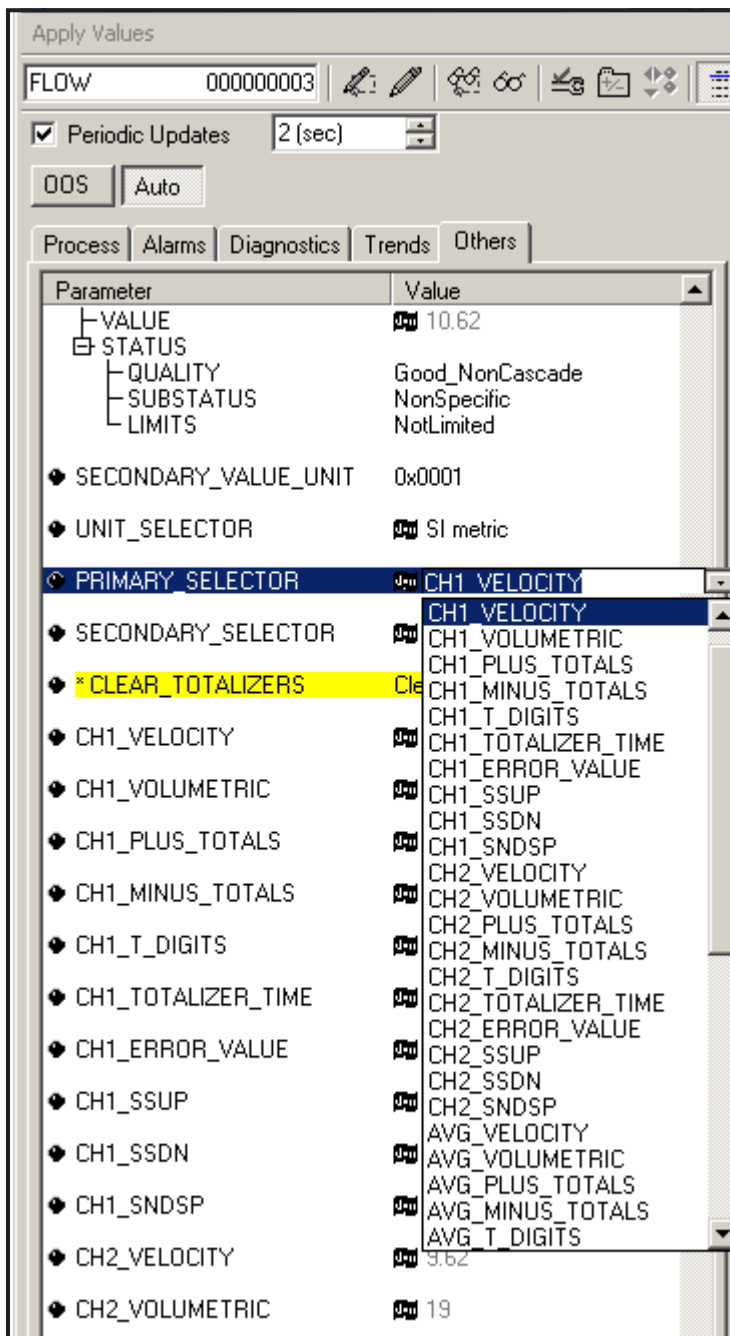

Figure 60: Primary Selector Drop Down List
2. Select the **Others** tab and open the drop down list for the PRIMARY_SELECTOR and SECONDARY_SELECTOR (refer to Figure 60 on page 137).
3. Choose the unit from the list (see Figure 60 on page 137).
- After the desired measurements have been selected for the PRIMARY and SECONDARY SELECTOR, choose the unit system (UNIT_SELECTOR above the PRIMARY_SELECTOR) that was programmed in the flowmeter (English or SI), as shown in *Figure 60* below.